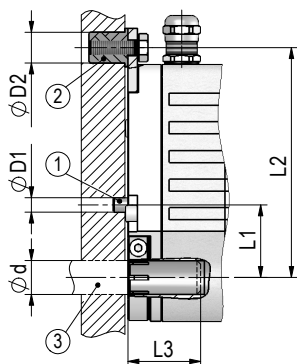
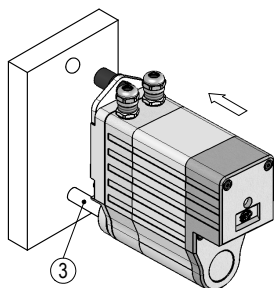
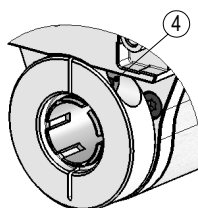
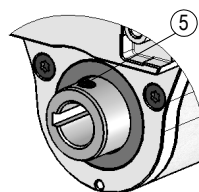

Fig. 1: Mounting dimensions
Fig. 2: Mounting
Fig. 3: Fastening torque for screws
Fig. 4: Shaft with feather key groove
- ▶ Ensure a low shaft and angle offset between shaft and accommodation bore by applying appropriate manufacturing methods (see Fig. 1 + Tab. 2).
Preparing mounting (Fig. 1, Fig. 2, Fig. 3):
Mounting (Fig. 1, Fig. 2, Fig. 3, Fig. 4):